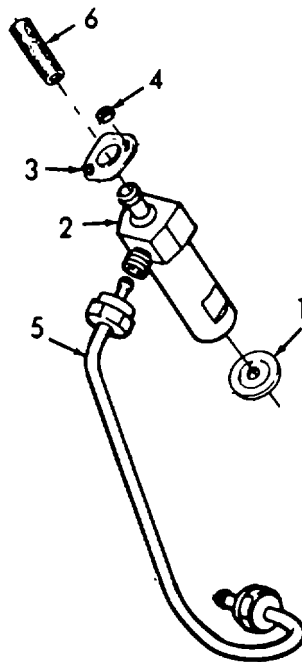

Figure 5-6. Fuel Injector Installation.
- c. Installation. (Refer to figure 5-6).